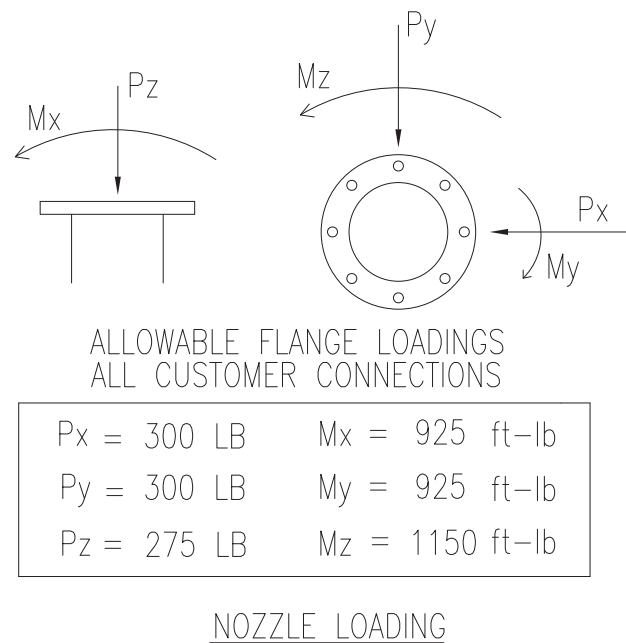

Figure 3-6. Flange Loads
1. The following precautions and/or considerations shall be observed in the design of customer or user supplied piping systems connecting to the machine. Vilter is not responsible for customer or user supplied piping. For maximum allowable flange loads, see Figure 3-6.